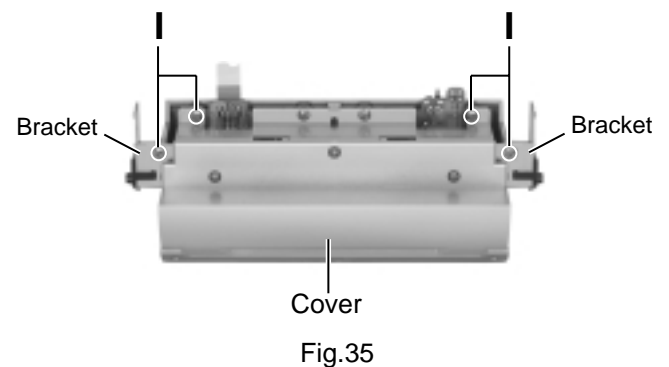

Fig.35
■ Removing the multi-control board (See Fig.35 to 37)